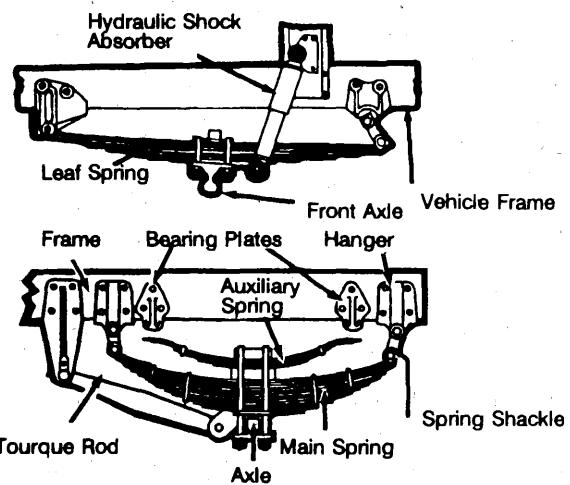

Figure 2-2
- Spring hangers (Figure 2-2) that allow movement of axle from proper position.
- Torque rod or arm, U-bolts, spring hangers, or other axle positioning parts that are cracked, damaged, or missing (Figure 2-2).